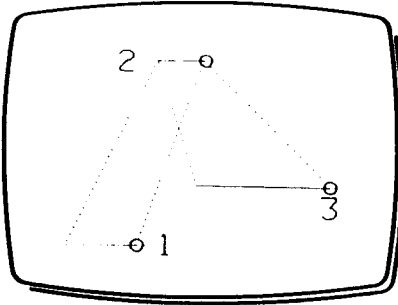

Fig 2
- 3 Rotate Z to alter the width of the NIB, and move XY to position the NIB at (1) in Fig 2.